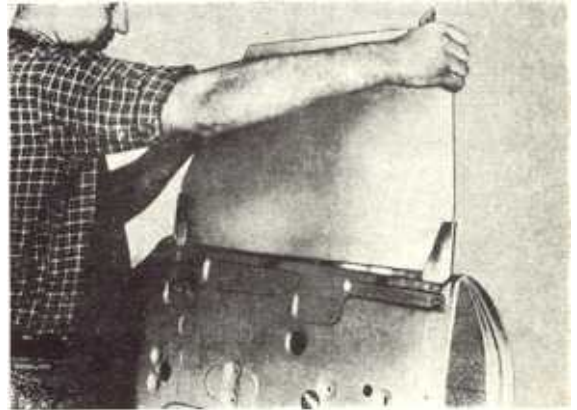

Fig. 29
3. Insert pane (see fig. 29). Loosen guide rails at lower mountings, in order to facilitate assembly in guides of crank mechanism.